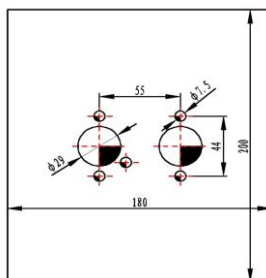

Fig 10
4.2.4 If the thickness of the installation panel  $< 1.5\text{mm}$  a mounting plate may need. Between mounting plate and the car body must also be sealed (use glass glue (Fig. 10)).